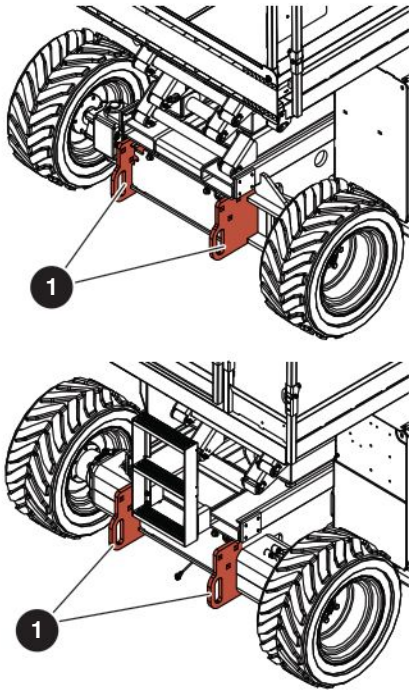

Figure 06 Tie-downs/lift points
- Attach the rigging to all **four lift points** ❶. Refer to Figure 06.
When you transport the MEWP, it must be attached to a truck or trailer deck. Use the available tie-down points ① to attach the MEWP. Refer to Figure 06. If you do not obey, there is a risk of death or serious injury.
- Tie-down the MEWP to the transport vehicle using the **tie-down points** ①. Refer to Figure 06.